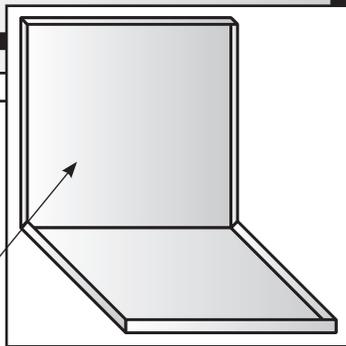

Figure 17
**Figure 17** illustrates a folded Omega-Lite panel that is properly prepared for an outside corner.